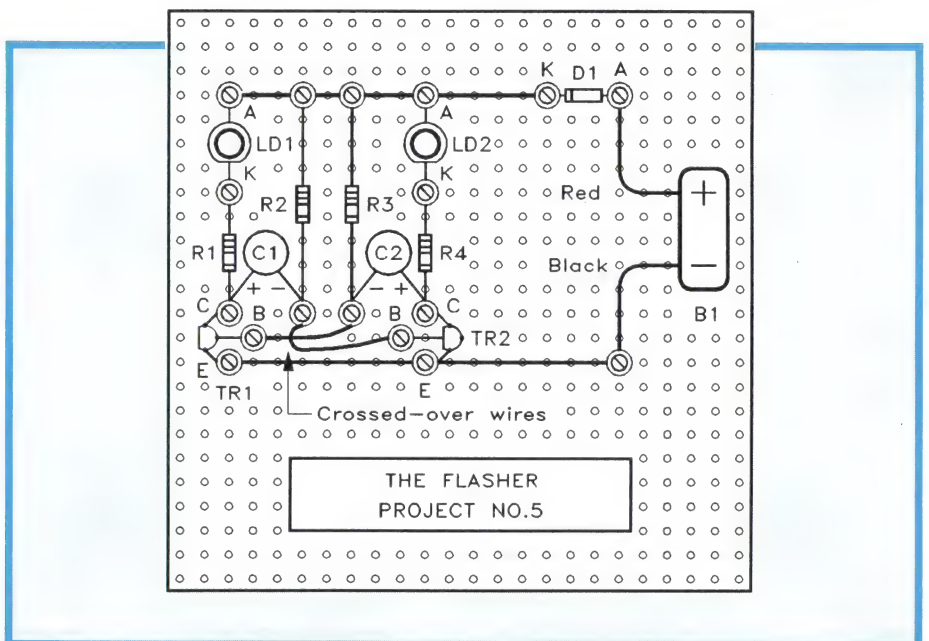

Figure 2. The layout of the components. Note that the crossed-over wires must NOT touch one another.
1. Cut out the component guide-sheet provided with the kit (which is a full-size copy of Figure 2), and glue it to the top of the plastic board. Paper glue or gum should be okay. Do not soak the paper with glue, a few small 'dabs' will do.